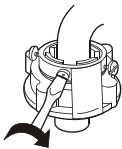

Figure 4
5. Extend the drain hose out of the other side. Fix the drain hose onto the cabinet with the drain hose rack. Set the drain hose nut on, and fasten the nut to the direction indicated in the figure, as per Figure 4.
3. Fasten the four screws of the water inlet hose jointer evenly. See to Figure 4.